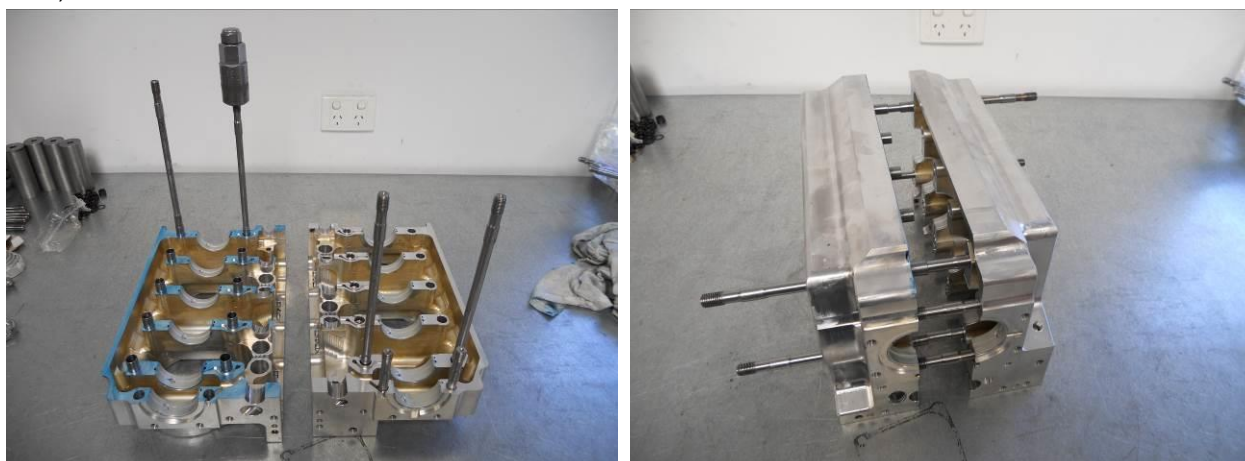

Figure 13 - Installing dowels and studs, pressing crankcase halves together
- With the dowels and studs installed the two crankcase halves are pushed together (as shown below in Figure 13).